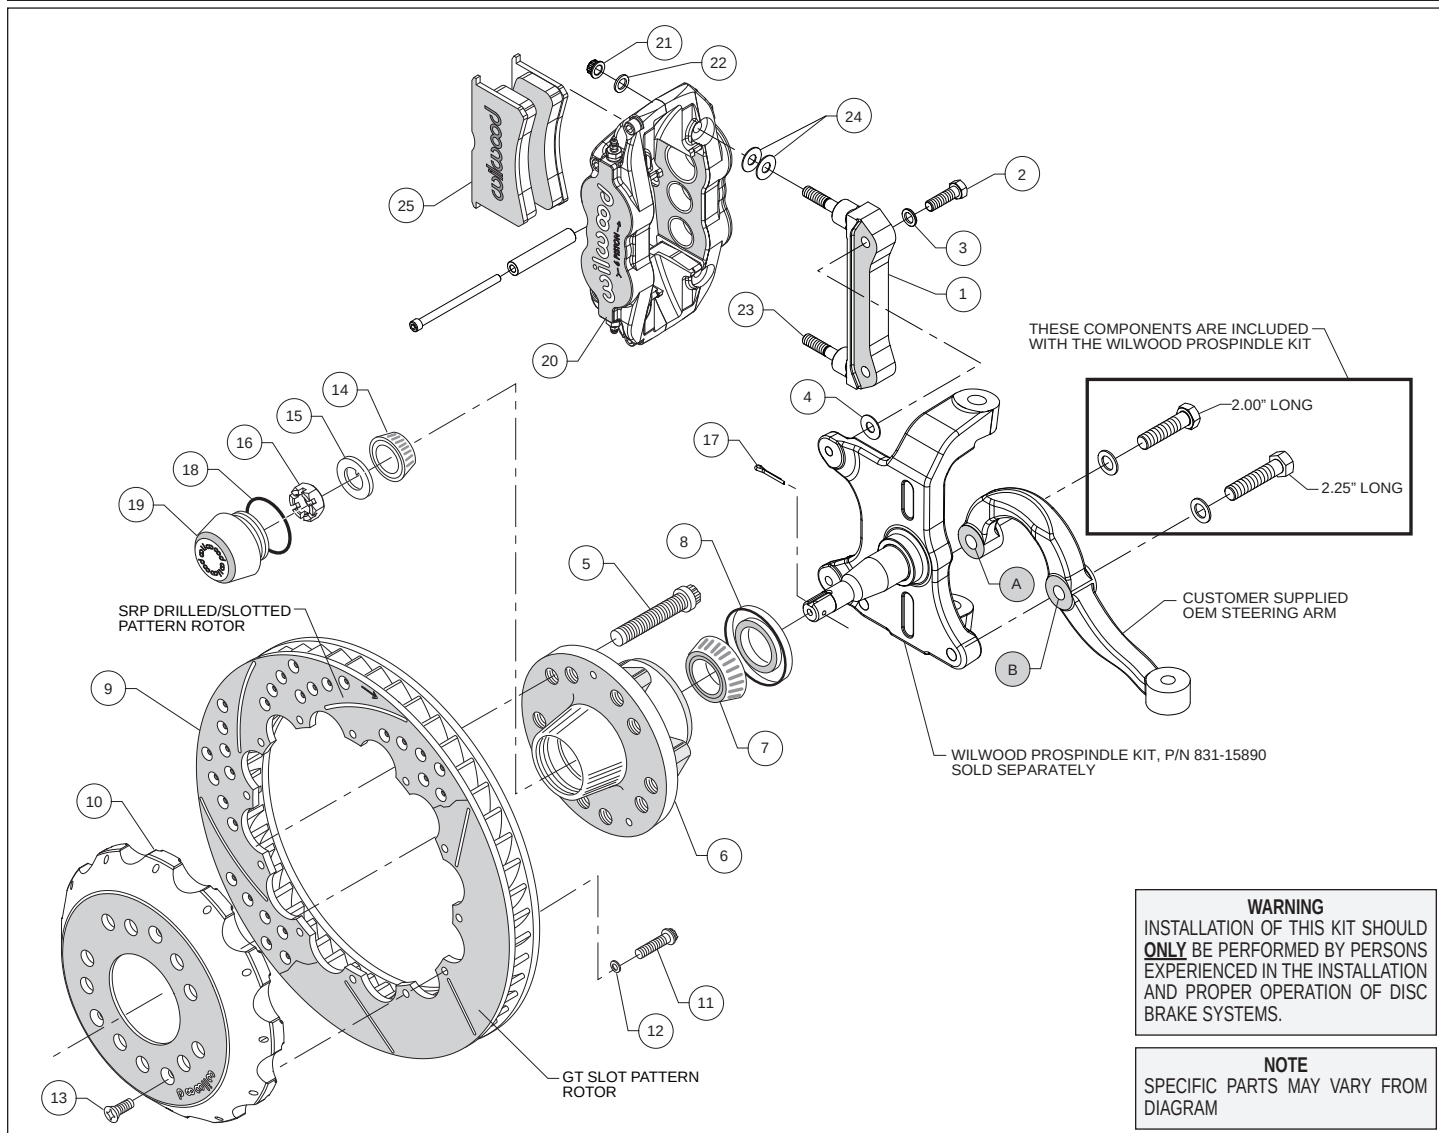
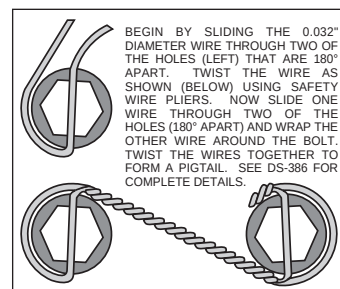

Figure 1. Typical Installation Configuration
Figure 3. Safety Wire Diagram
Assembly Instructions (numbers in parenthesis refer to the parts list on the preceding page, and Figure 1):
•**NOTE:** Wilwood's AFX ProSpindle kit includes bolts and washers to mount the steering arm (customer supplied) to the spindle. The various bolts are identified by length in the following instructions and in Figure 1.
•Orient the steering arm, and identify the hole marked "A" as shown in Figure 1. Attach arm to spindle using 2.00" long bolt and washer (from ProSpindle kit), Figure 1. Finish attaching the steering arm through the hole marked "B", using 2.25" long bolt and washer (from ProSpindle kit), Figure 1. Temporarily tighten the mounting bolts. **NOTE:** The steering arm must fit squarely against the mounting points on the spindle. Inspect for interference from casting irregularities, machining ridges, burrs, etc. Remove bolts one at a time, apply red Loctite® 271 to threads, and torque to 77 ft-lb.
•The caliper mount bracket (1) should initially be installed with clean, dry threads on the mounting bolts. Orient the bracket as shown in Figure 1, and install using bolts (2) and washers (3). Initially place one .035" thick shim (4) on each bolt between the bracket and spindle, Figure 1 and Photo 1. Temporarily tighten the mounting bolts. **NOTE:** The bracket must fit squarely against the mounting points on the spindle. Inspect for interference from casting irregularities, machining ridges, burrs, etc. Later, after the caliper alignment has been checked, the mount bolts will be secured using red Loctite® 271.
•Install wheel studs (5) into the hub (6), Photo 2. Torque to 77 ft-lb. **NOTE:** There are two five lug patterns in the hub (5 x 4.50 and 5 x 4.75). Ensure the correct hub stud pattern is being used to fit the wheel application.
•Pack the large inner bearing cone (7) with high temperature disc brake bearing grease (available from your local auto parts store) and install into the backside of the hub (6), Photo 3.
•Install the grease seal (8) by pressing into the backside of the hub (6), flush with the end of the hub, Photo 3.
•Pack the small outer bearing cone (14) with high temperature disc brake bearing grease and install into front of hub (6). Slide the hub assembly onto the spindle. Secure using spindle washer (15) and spindle nut (16), Photo 4. Bearing adjustment: Tighten the nut while turning the hub. When there is a slight bind on the bearings, they are seated correctly. Back the nut off about 1/6 to 1/4 of a turn, or sufficiently to allow .001" to .007" end play. **WARNING:** Failure to back off adjusting nut could cause bearing to run hot and be damaged, which could cause the wheel to lock or come off. Install a new cotter pin (17).
•Screw dust cap (19) into hub (6). Friction created by the o-ring (18) on the dust cap keeps it from unscrewing. **NOTE:** The O.D. of the existing OEM spindle washer may be larger than the I.D.
- Orient the rotor (9) and the hat (10) as shown in Figure 1 and Photo 5. Attach rotor to hat using bolts (11) and washers (12). Using an alternating sequence, apply red *Loctite*® 271 to the threads and torque bolts to 155 in-lb. For an added measure of security, the bolts may be safety wired using standard 0.032 inch diameter stainless steel safety wire as shown in Figure 3. Refer to Wilwood's data sheet DS-386 (available at www.wilwood.com/Pdf/DataSheets/ds386.pdf) for complete safety wire installation instructions.
- Slide the hat/rotor assembly (10 and 9) onto the hub (6) taking care to align the small countersunk holes in the hat with the small threaded holes in the hub. **NOTE:** The hat must fit flush against the hub face or excessive rotor run out may result. Install three flat head screws (13) through the small holes in the hat, Photo 6, and torque to 85 in-lb.
- **NOTE:** This kit contains distinct right and left hand calipers that must be mounted in a specific direction, as described below. Lubricate the caliper mounting studs (23) with lightweight oil. Initially place two .035" thick shims (24) on each stud between the caliper and the bracket, as shown in Figure 1 and Photo 7. Mount the caliper (20) onto the bracket (1) using lock nuts (21) and washers (22), Figure 1. Ensure that the caliper is mounted so the largest pistons are at the rotor exit end of the caliper, in relation to the direction of rotor rotation. Temporarily tighten the lock nuts and view the rotor through the top opening of the caliper. The rotor should be centered in the caliper, Photo 8. If not, adjust by adding or subtracting shims (4) between the bracket and the spindle. Always use the same amount of shims on each of the two mounting bolts. Once the caliper alignment is correct, remove the bracket mounting bolts (2) one at a time, apply red *Loctite*® 271 to the threads, and torque to 40 ft-lb.
- Remove the caliper center bridge pad retainer bolt, nut, and tube from the caliper. Insert the brake pads (25) into the caliper, with the friction material facing the rotor, as shown in Photo 9. Check that the top of the brake pad is flush with the outside diameter of the rotor, Photo 10. If not, adjust by adding or subtracting shims (24) between the caliper and the bracket. After the caliper pad height is set, torque the caliper lock nuts (21) to 30 ft-lb. Secure the brake pads in place with the center bridge pad retainer tube, bolt, and locknut, Photo 11. The locknut should be snug without play in the bolt or tube. Be cautious not to over tighten.